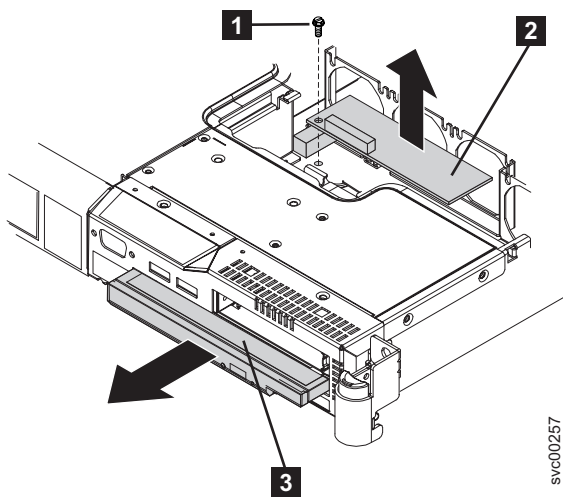

Figure 214. Removing the CD interposer card
4. Remove the CD interposer card (**2** in Figure 214) by unscrewing it, lifting it slightly and then removing the cable from it.